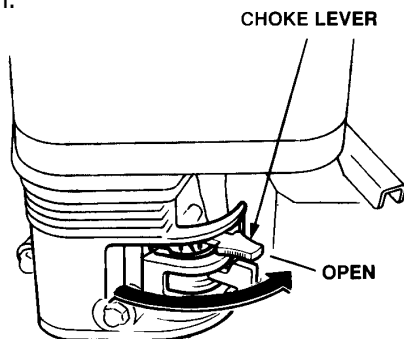

Figure 29. Choke Lever Open
4. Place the **choke lever** (Figure 29) in the "**OPEN**" position.